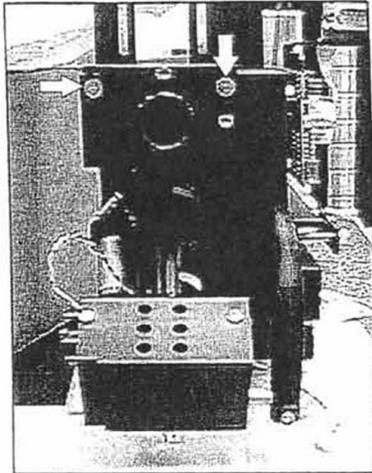

Figure 2: Location of double eccentrics.
- Double eccentric on optics. (fig. 2)